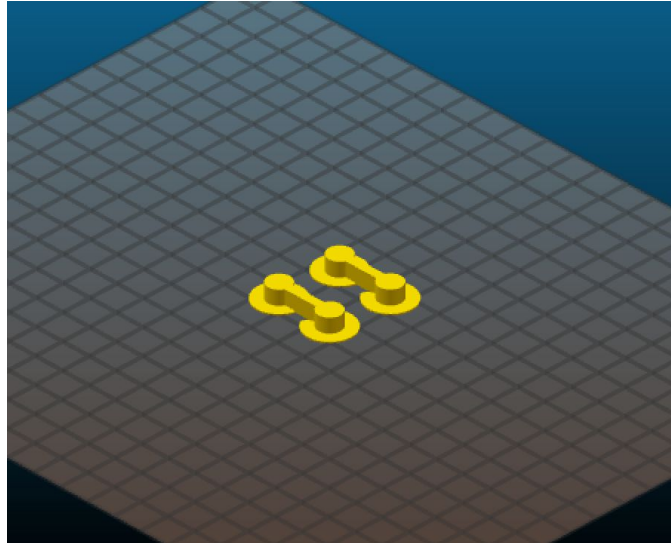

Fig. 7: Orientation of Hinges
- Hinges: You need to print 2 hinges for each hand. These are printed at 35% infill with Ninjabflex. Please use the **M2** profile on the M2 and the **0.2mm Normal 35% Infill** profile on the Prusa. Orient the hinges on the platform as seen below (Fig.7).